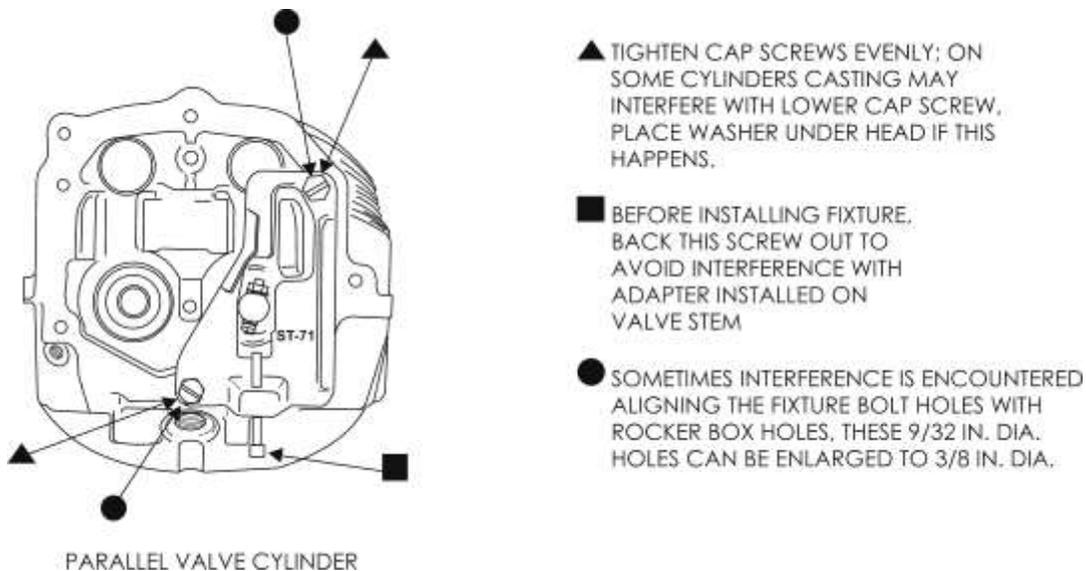

Figure 6
- (17) Loosen the screws identified in Figure 6 to prevent the screw from touching the Gage Adapter (ST-71-8) when installed on the valve stem.
- (18) Install the Gage (ST-71) on the valve on the cylinder head as shown in Figure 6.
- (26) Relax the screwdriver and record the reading on the dial indicator. For the exhaust valve guide to be acceptable, the measurement must be within the specified limits in the latest revision of the *Service Table of Limits - SSP-1776*.
- (27) If the valve guide is out of tolerance either replace the cylinder or send the cylinder to an authorized vendor who can replace the valve guide.
- (28) Move the piston to near its top end of travel.
- (29) Remove the Gage Adapter (ST-71-8) from the valve stem.
- (30) Loosen each cap screw in the Gage (ST-71) (Figure 6) in small equal increments to decrease pressure on the valve spring slowly and equally.
- (31) Remove the Gage (ST-71) from the cylinder.